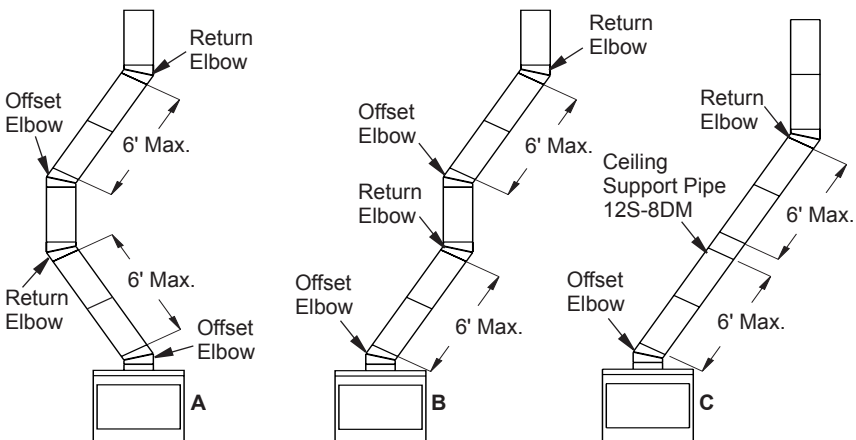

Figure 9 - Typical Offset Installation
1. To achieve desired offset, you may install combinations of 12", 18", 24", 36" and 48" length of double wall pipe (see offset chart, page 7, and Figure 9).
3. Maximum length of pipe between supports (return elbow or 12S-8DM) is 6' of angle run. Maximum of two 6' angle run sections per chimney system (see Figure 9).